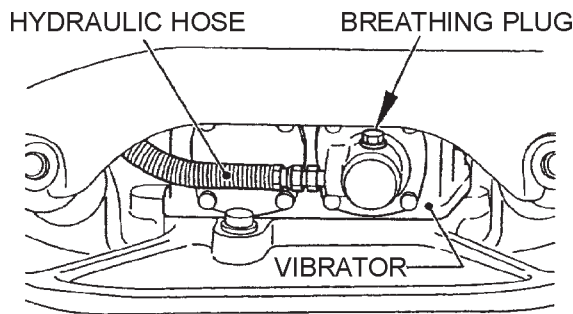

Figure 17. Hydraulic Hose
1. After removing plug cap of hand pump (Figure 6), remove plug of breather (24 mm wrench) and disconnect vibrator side of hydraulic hose (Figure 17) at vibrator cylinder. With travel lever placed in the **FORWARD** position, drain hydraulic oil in the pump.